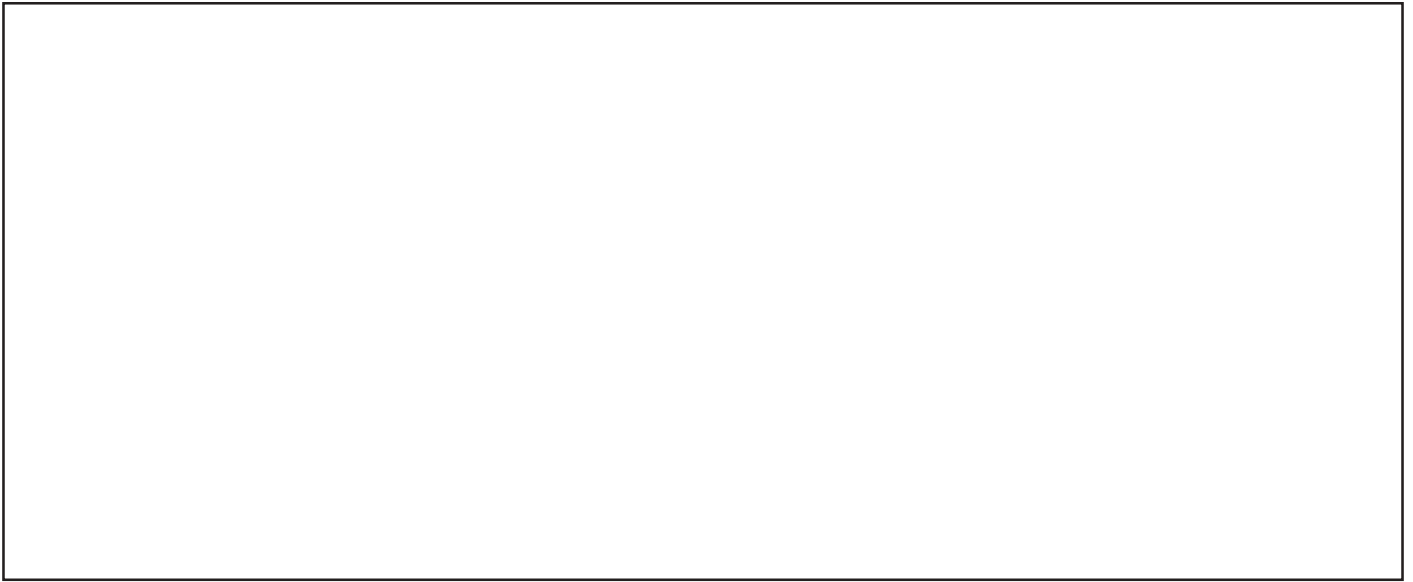

Figure 2. Typical Horn Installation Wiring.
- a. Remove splicing conduit cover. See figure 2. Connect the device's red (+) leads to the power source positive (+) lead. Connect the device's black (-) leads to the power source negative (-) lead.